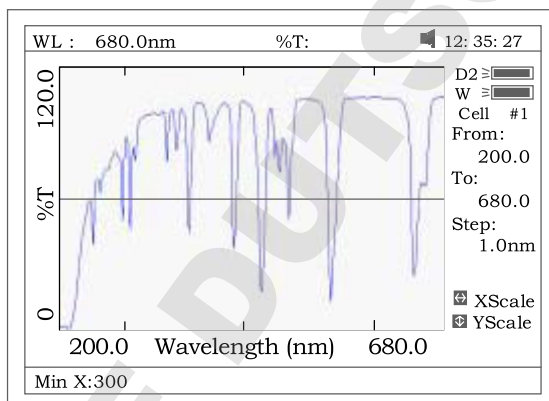
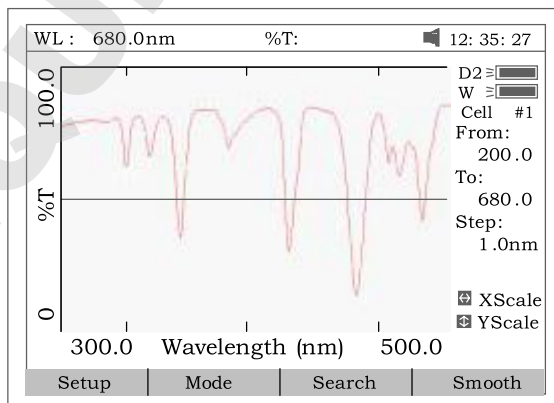

Fig46
Fig 47
- 5 If you want to change the scale, press **<** or **>** to change “x” scale (Fig 46), input upper limit and lower limit by pressing the numeric keypad . To change “y” scale press **^** or **v** . After these inputs the instrument will redraw the curve (Fig 47).
Press **[SAVE]** to save the curve. Note: Open/Save requires the first scan display page Fig. 47. Press **[ESC]** if in Search to return to the required page